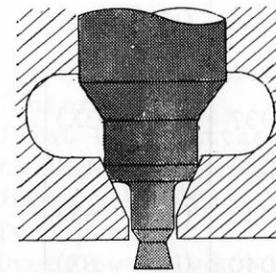

Fig. 9-102
3) Inspect the tip end of the needle valve and replace it if the square section of the nozzle assembly (see Fig. 9-102) is badly deformed or damaged.